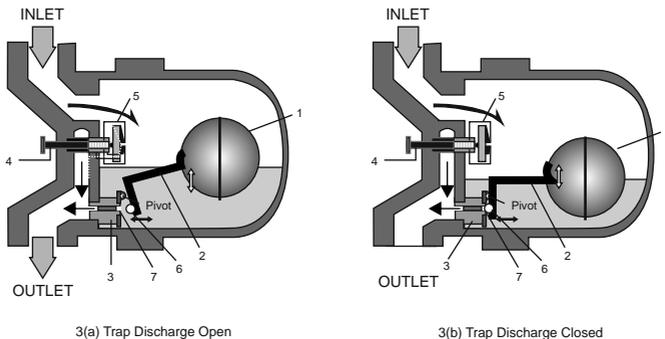

Figure 3: Single Orifice Float trap working
#### 4. Product Working Principle: (Refer to Figure 3)
Figure 3 shows a simple float trap operational representation. A float trap works on the Buoyancy Principle. Condensate enters the trap body and raises the float (1). The position of the float (1) depends upon the level/load of condensate (flowrate). The float trap continues to discharge condensate continuously and doesn't allow back up of condensate as long as the load is within the discharge capacity. When the condensate load drops, the float (1) lowers in position and closes the outlet valve (3) with the ball (6) resting on the orifice (7).
\*The trap in the figure 3 shows a TV+SLR assembly. SOFT31(DN15-25) also comes with only TV or SLR assembly.